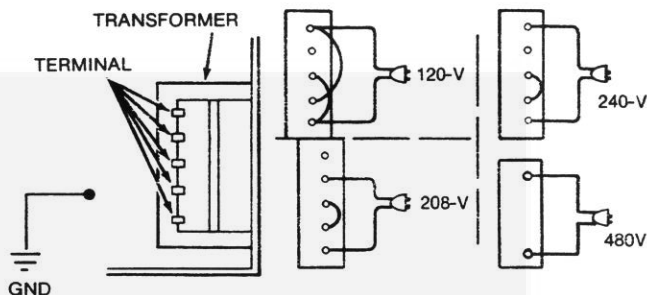

FIGURE 2. BATTERY CHARGER POWER TRANSFORMERS
4. The battery charger is wired at the factory for 120 volt AC (input) operation. To operate at 208 or 240 volts AC (input), change the lead wire connections to the power transformer (T1) as shown in Figure 2.